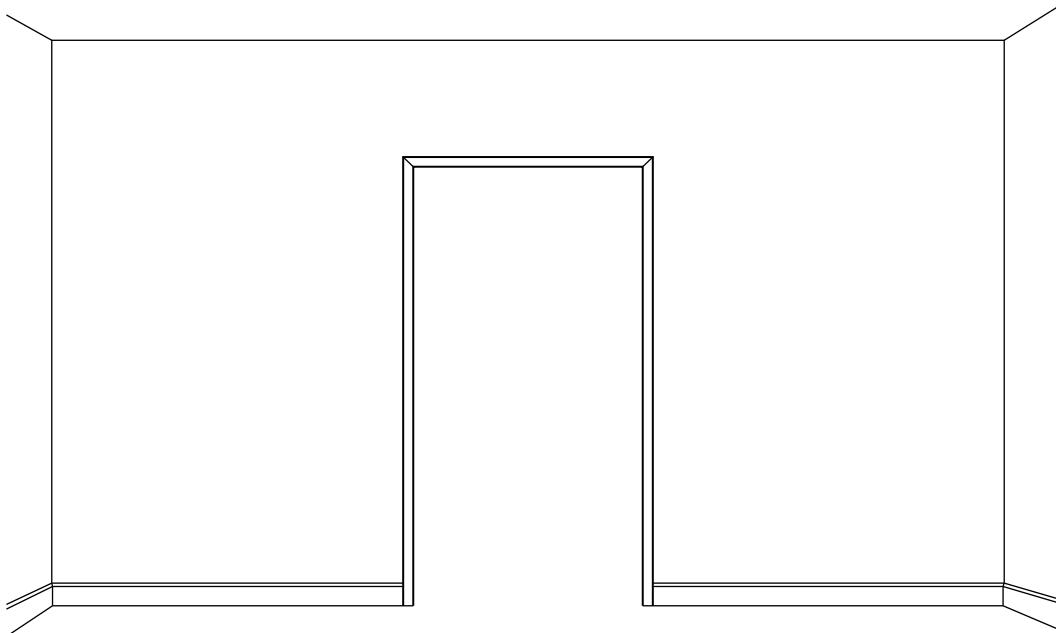

Fig. 1
Fig. 1 shows an elevation of an internal non-load bearing partition wall.
- (a) Give **four** justified design requirements for an internal non-load bearing partition wall of the type shown in Fig. 1.
- (e) (i) State a **suitable specific material** for the construction of the internal non-load bearing partition wall as shown in Fig. 1.
- (ii) Describe, in detail, the method of constructing the internal non-load bearing partition wall shown in Fig. 1. Include details of how stability is achieved.